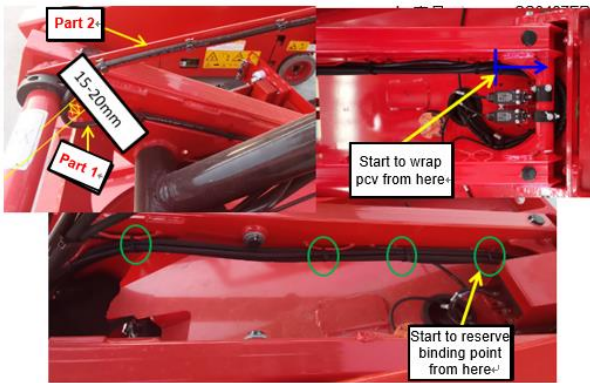

Fig. 4.20 Installation of first layer pipeline
harness fork shall be close to the round pipe at the rear end of the inner frame, as shown in Fig. 4.20. In the natural state, the harness shall be arced to the inner side, 15-20 mm away from the fixing ring;
- g) The 2 main valve oil pipes in the chassis are wrapped with 500 mm/19.7 in long PVC from 50-60 mm/1.97-2.36 in after the last binding point of the fork frame for protection, as shown in Fig. 4.20.